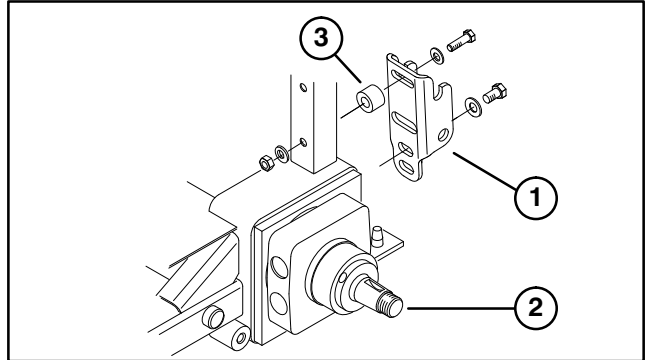

Figure 7
B. On Sand Pro 5000/5020 – Mount top of receiver bracket to frame with a 3/8–16 x 1.25" lg. capscrew, (2) .40 I.D. x .81 O.D. flat washers, .625" lg. spacer and locknut. Mount bottom of receiver bracket to frame with a 1/2–13 x .875" lg. capscrew and (2) .56 I.D. x 1.063 O.D. flat washers. Position components as shown in figure 7.